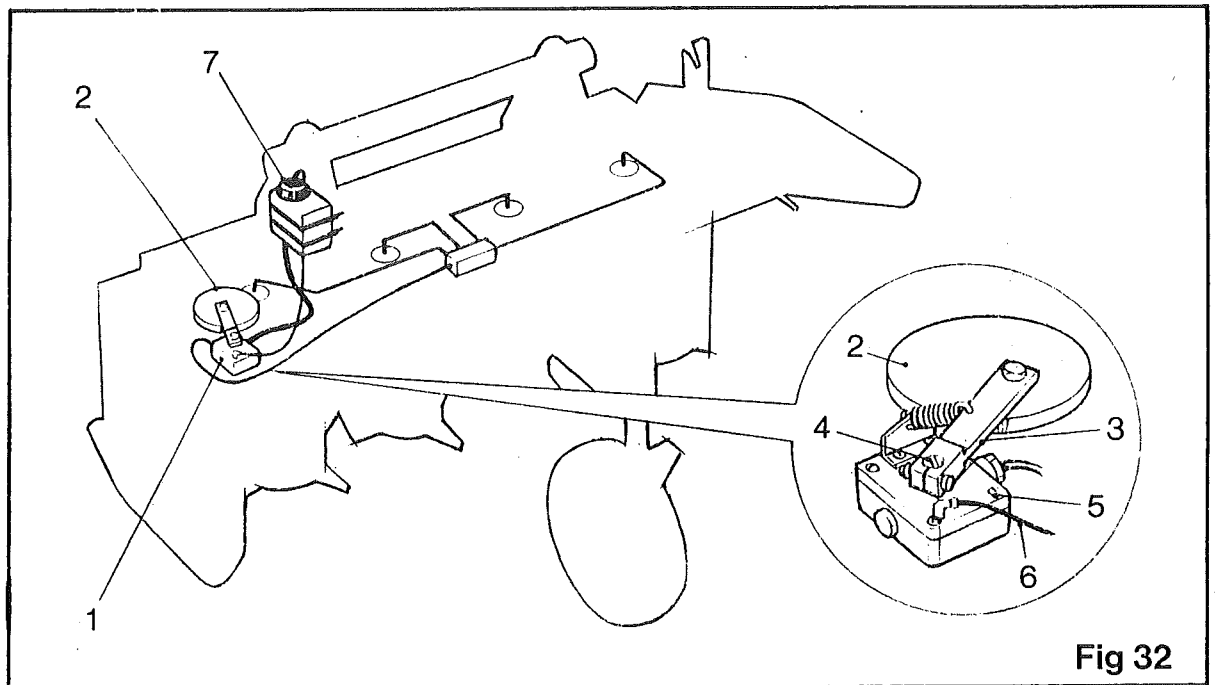

Fig 32
Automatic lubrication is fitted to feed eight bearings on the topper, fed by the lubrication pump (item 1 fig 32). A reaction wheel (item 2 fig 32) is fitted eccentric to the operating arm (item 3 fig 32) giving a feed pressure of 200 P.S.I. The stroke of the operating arm can be adjusted by loosening the clamp of the operating arm and turning the slotted spindle (item 4 fig 32) with a screwdriver. If more lubrication is required,
turn the slotted spindle towards the '+' position, stamped on the top plate (item 5 fig 32) and whilst holding this position with the screwdriver, tighten the clamp bolt on the operating arm (item 3 fig 32).
When carrying out this operation, ensure that the reaction wheel (item 2 fig 32) is at its furthest stroke.
The system is self priming with the feed pipe (item 6 fig 32) being fitted from the top of the pump (item 1 fig 32) to the bottom of the oil reservoir and through to the top of the oil inside the reservoir.
When filling the system with oil for the first time or in case the system has been allowed to become empty, the system must be primed. To prime the system, operate the operating arm (item 3 fig 32) manually until the oil is discharged from the bearing feeds. Top up the oil reservoir with oil as required. The oil reservoir is made of see-through plastic and should be filled with SAE 90 gear oil. The oil filter inside the reservoir should be changed annually.